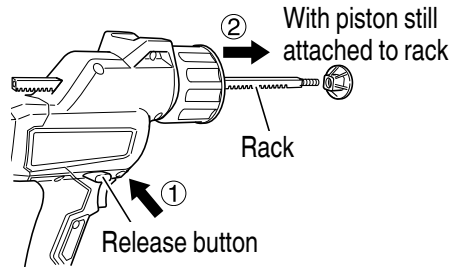

Fig. 13
- (3) While pressing the release button to release the lock, pull the rack out from the front side of the main body. (Fig. 13)